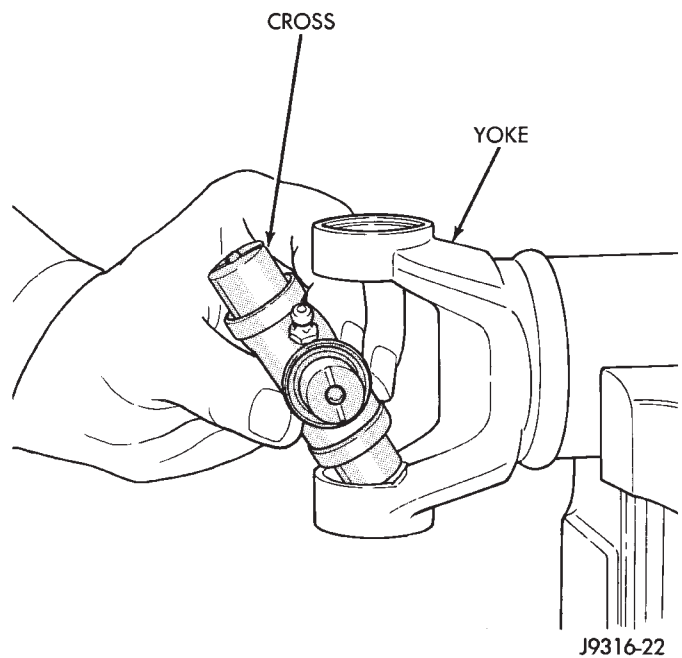

Fig. 17 Install Cross In Yoke
(1) Apply extreme pressure (EP) N.L.G.I. Grade 1 or 2 grease to inside of yoke bores to aid in installation.
(2) Position the cross in the yoke with its lube fitting, if equipped, pointing up (Fig. 17).